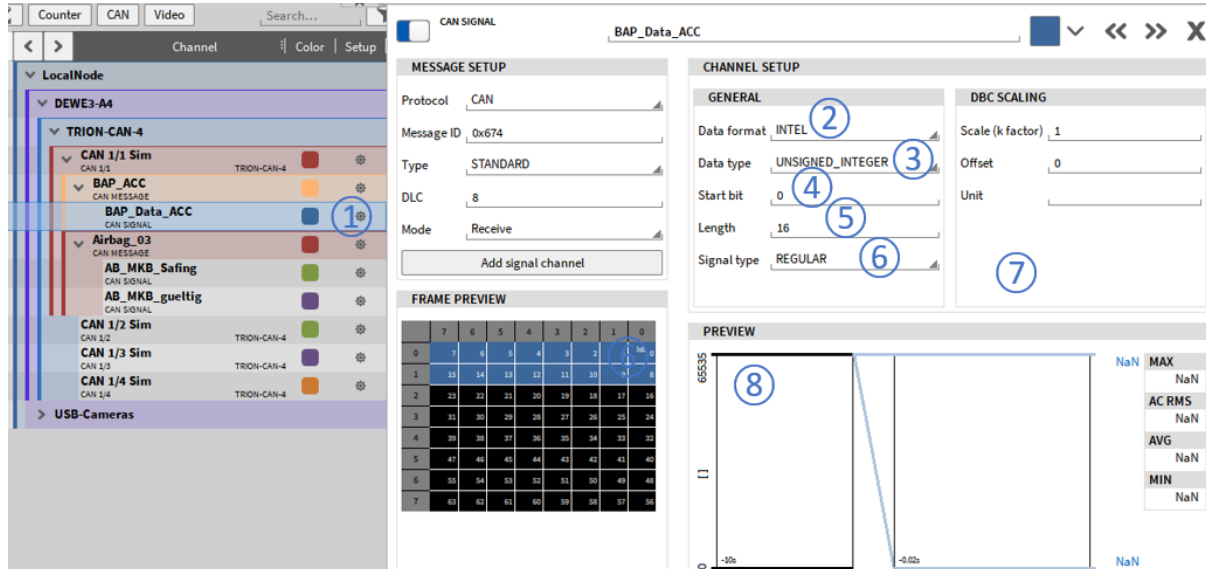

Fig. 7.205: CAN signal setup
The CAN signal setup can be accessed by pressing the gear button of the respective CAN signal in the Channel List (see ① in Fig. 7.205).
- Data format (see ② in Fig. 7.205): Intel or Motorola
- Data type (see ③ in Fig. 7.205): Double, Float, Signed Integer or Unsigned Integer
- Start bit (see ④ in Fig. 7.205): Define the start bit of the signal within its message
- Length (see ⑤ in Fig. 7.205): Define the length of the signal within its message
- Signal Type (see ⑥ in Fig. 7.205): Regular, Multiplexed or Multiplexor
- DBC Scaling (see ⑦ in Fig. 7.205): Change the scaling of the signal
- Preview: (see ⑧ in Fig. 7.205): The preview shows the past 10 seconds of the signal to check if proper settings have been applied to the signal.